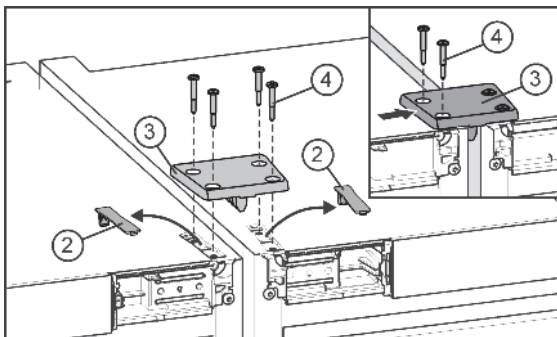

Fig. 23
- ▶ Release and remove the covers Fig. 23 (2).
- ▶ Fit a connecting plate Fig. 23 (3) and fix loosely to one appliance with two screws Fig. 23 (4).